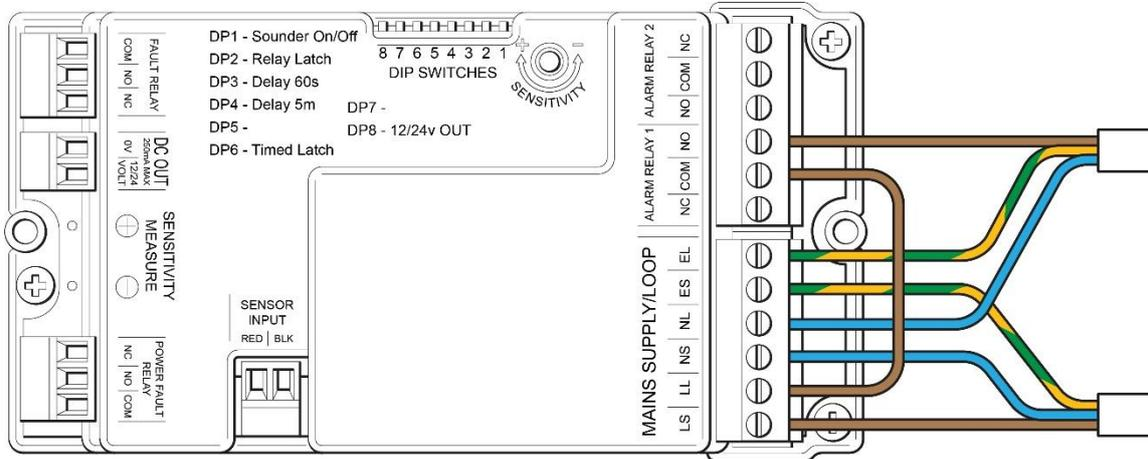

Figure 13: Using the EMS to Power a 230V Ancillary Device (Alarm Relay 1: Normally Open)
2. Wire the device. Wiring is dependent on the labelling of terminals and whether the device is normally open or normally closed (Figures 13 and 14 show wiring for normally open and normally closed devices connected to Alarm Relay 1).